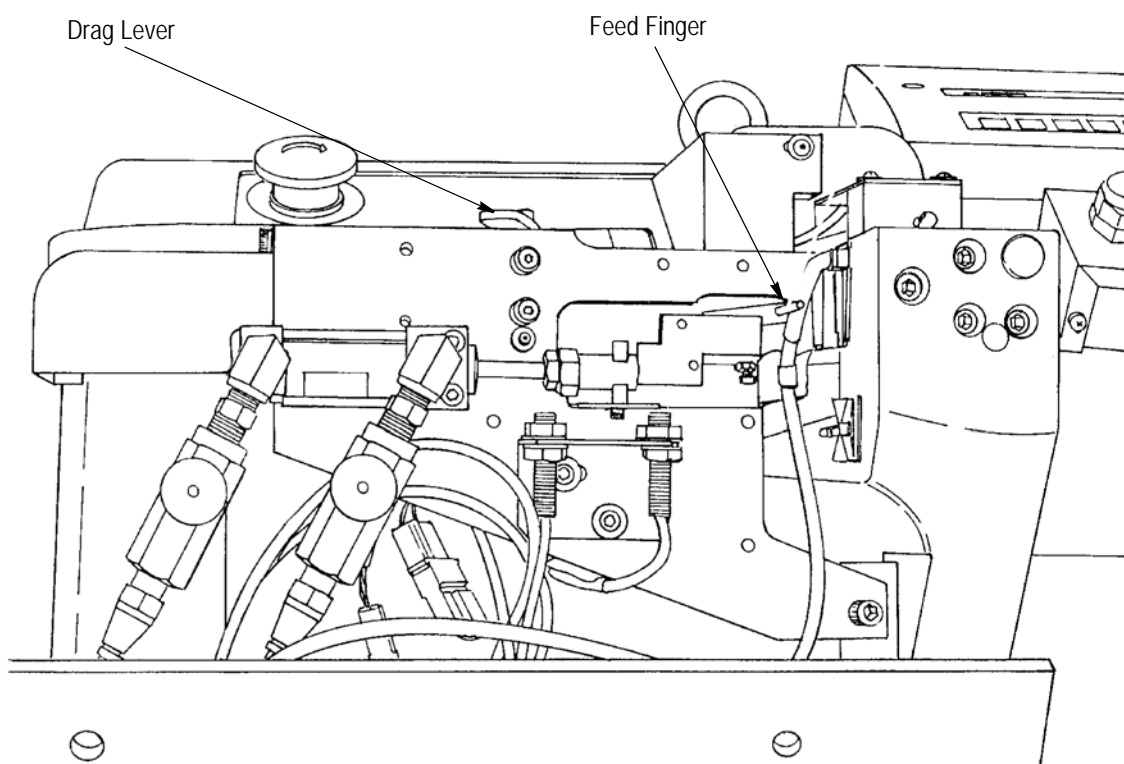

Figure 15
4.3. Terminal Strip Loading (Refer to Figure 15)